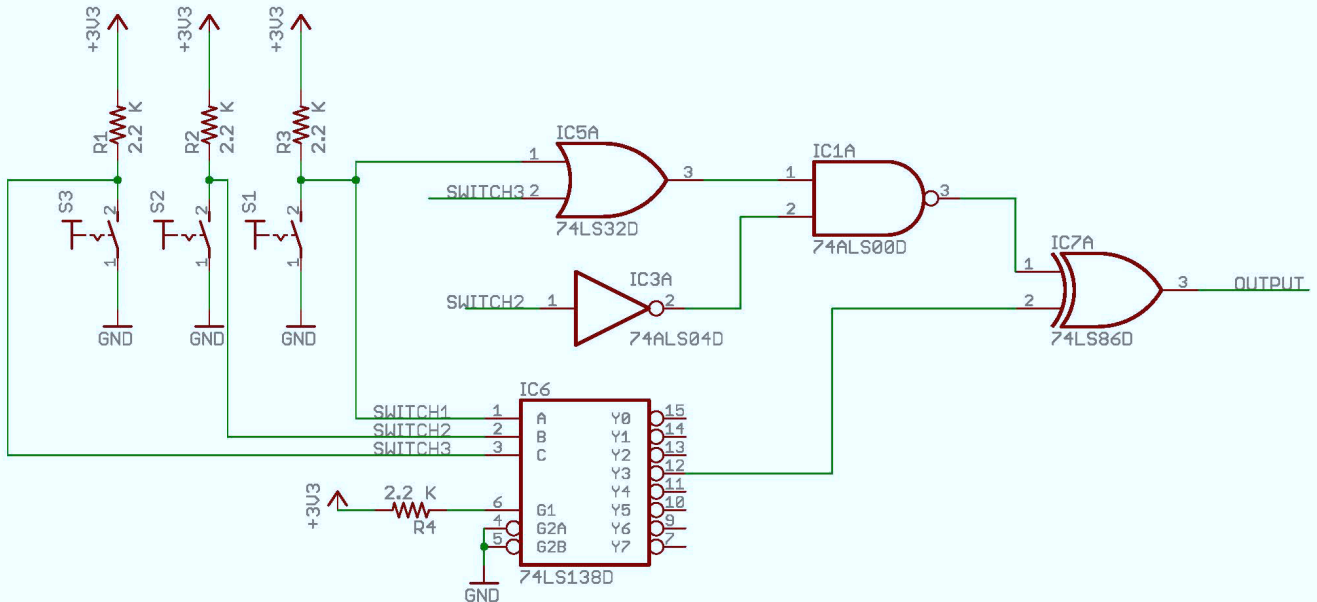

Figure 1.
- Assume you have designed the switch glue logic shown in Figure 1. Assume that this crazy circuit is a part of a circuit used in an industrial machine, where the switches are located strategically to indicate the different states of the machine.